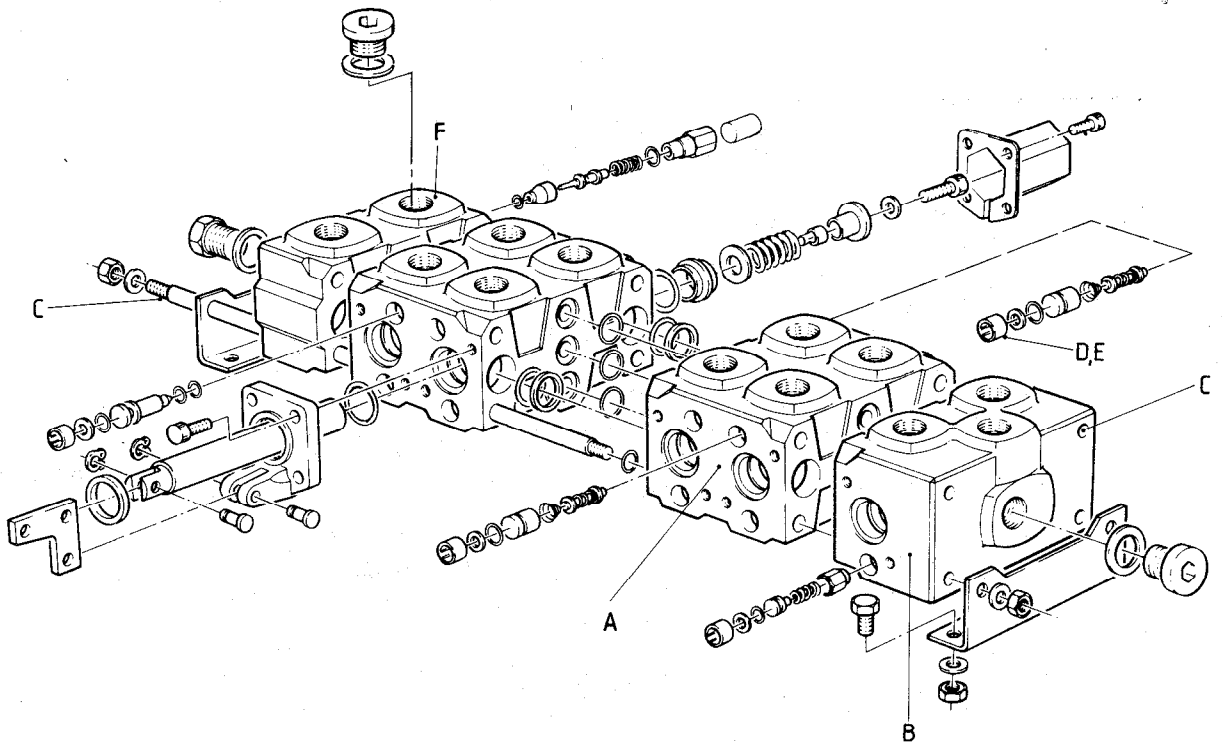

FIG 3 - VALVE BANK ASSEMBLY
- e. The plastic cap of the valve (Item D, Fig 3), will now be exposed. Remove by flicking out with a small screwdriver or scriber.
- f. Remove stud (Item C, Fig 3), from the Main Valve Body by undoing the nuts at the opposite end of the valve bank and drawing out completely.
- h. Fit Item 1, Table 1, into the cavity (approximately 25 mm in), spring assembly first, as shown in Fig 3, Item E. Make sure it is well home. Replace stud (C) and torque to 18 Nm. Replace the plastic cap by tapping in lightly with a small hammer.